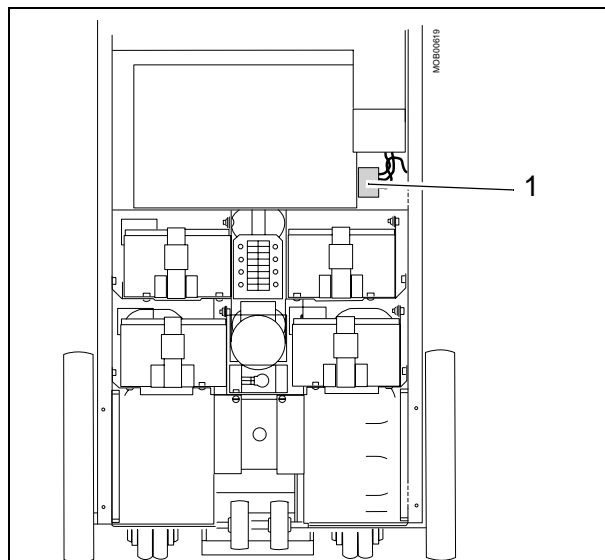

Fig. 3
- Disconnect main switch plug K52 (pos. 1 / Fig. 3).